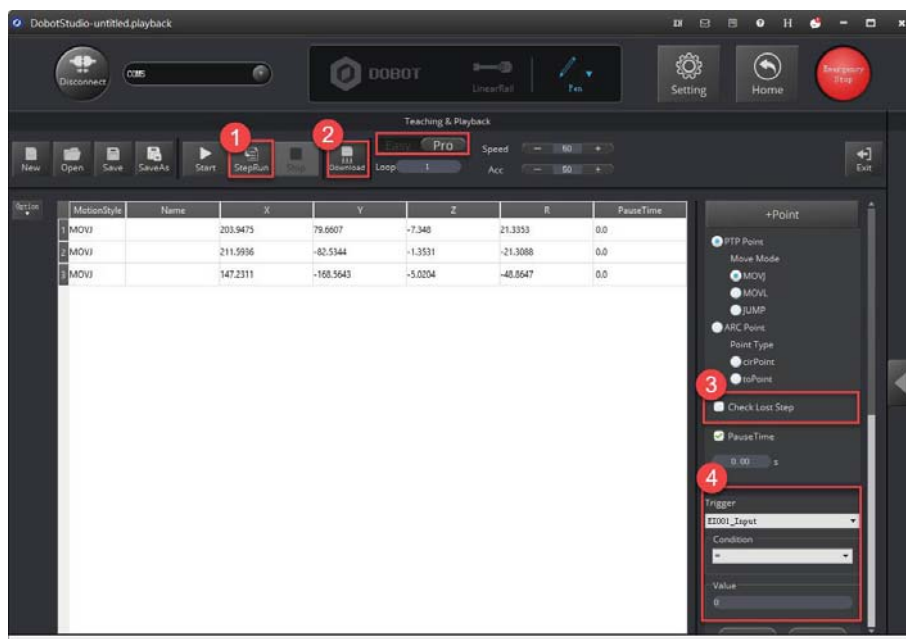

Figure 5.19 The Pro mode of the Teaching & Playback function
- Pro** mode: To enter the **Pro** mode from the current **Easy** mode, click the **Easy/Pro** slider, as shown in Figure 5.19. Apart from all the functions in the default **Easy** mode, the **Pro** mode allows the robotic arm to run a save point each time, detect lost-steps, work in offline mode, and perform the multiplexed I/O interface. For details, see Table 5.9.